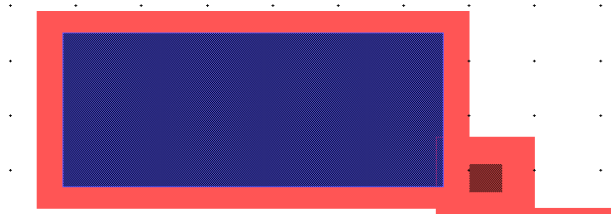

Figure 150: Creating Structural BC Tag.
- ☑ Draw another box on the "myBCLayer" layer, similar in size and location to the previous one, as shown in (Figure 150).